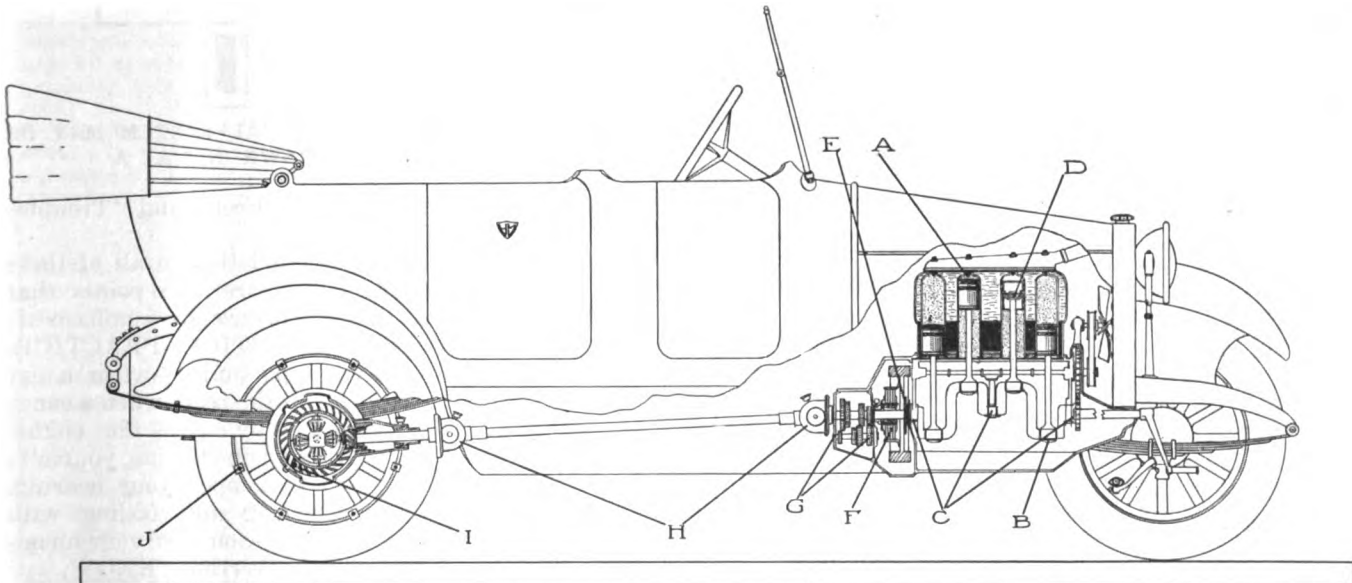

FIG. 1—CHART SHOWING LOCATION OF "TROUBLES WE HEAR"—KNOCKS AND POUNDS
2. *Pre-ignition:* This has two distinct causes—(a) Carbon in the cylinder and (b) Hot Engine. Here the explosion takes place before the spark occurs. Carbon in the cylinder accumulates above the piston in the explosion chamber. See Figure 1 at A. It heats up readily and explodes the gas as it is being compressed. It may be caused by too much oil, an inferior grade of oil or too rich a mixture of gasoline vapor from the carburetor. Oil sometimes gets past the pistons if there happens to be too much in the base of the engine, or if the pistons or rings are badly worn. Less oil or the use of a heavier grade of oil, or some of the modern leak-proof pistons may help out.
3. *Connecting-Rod Bearing Loose:* (B—Fig. 1) This knock is most pronounced when the engine is under load and running at lower speeds. It sometimes disappears altogether when engine is running at high speeds. With engine running slowly, short-circuit each spark plug with a screw driver and you will easily determine which or how many connecting rods are loose. If the bearings are very much loose it will be necessary to "blue" the crank shaft with a touch of prussian blue on the finger tip and "spot in" the bearing by putting in place on the shaft. The high spots on the bearing can then be seen and scraped down until a fine bluing shows a speckled or evenly mottled appearance. The bearing can then be adjusted to fit nicely when the nuts are firmly tightened. It will be necessary to remove shims or face-off the bearing
4. *Loose Crank-Shaft Main Bearing:* (C—Fig. 1) This knock is not as easy to locate as that of the connecting-rod knock. The method of fitting and adjustment is similar to that used for connecting-rods, excepting that each bearing must be adjusted separately with the other bearings loosened. Adjust these bearings so that the tightness is just barely felt.
5. *Piston Pin (wrist-pin) Loose in Piston:* (D—Fig. 1) Locate by the same method as outlined for Connecting-rod Bearings. New bushings, new pins and in some cases new pistons altogether are necessary to remedy this trouble.
7. *Flywheel Loose:* A very elusive knock. One tries to look every other place in the car before discovering that a few bolts are loose at E—Fig. 1.
8. *Clutch Coupling or Parts Worn:* This will cause a knock that would be almost taken for a tapping, unless the parts are badly worn, when a very distinct knock will be heard. Remedy, replace worn parts. (F—Fig. 1)
9. *Transmission Bearings Worn:* If ball bearings are used, a split in one or more of the balls will cause a knocking sound. (G—Fig. 1)
10. *Universal Joints Worn:* These often cause a knocking noise when the car is under power. It takes the form of a clank and rattle as the car passes over rough pavements. Replace the parts worn. (H—Fig. 1)
12. *Small piece of metal between teeth of gears:* This will cause a knocking sound in the rear axle. (I—Fig. 1)
13. *Demountable Rim Loose:* Tighten the bolts. (J—Fig. 1)